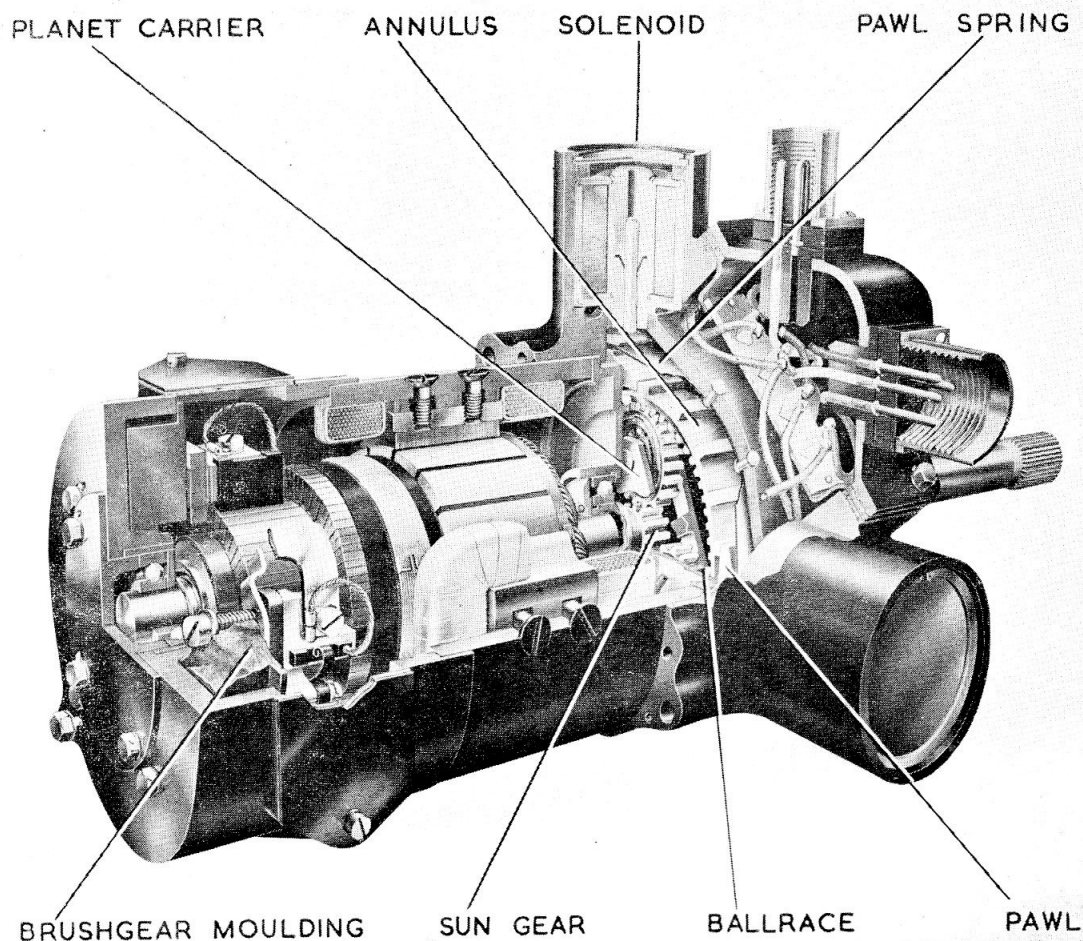

Fig. 1. Actuator, Rotax, Type C7001
2. The motor (*fig. 1*) is a short shunt, compound wound machine, the direction of rotation being reversible. It develops a no-load speed of 13,200 r.p.m. The wave